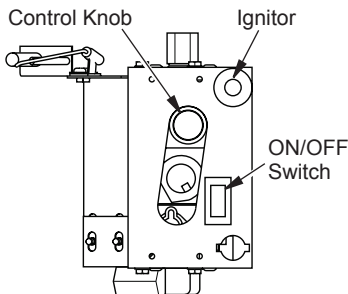

Figure 11 - Control Knob and Ignitor Button
4. Press in and turn control knob clockwise  to the OFF position (see Figure 11, page 11).
5. Wait five (5) minutes to clear out any gas. Then smell for gas, including near the floor. If you smell gas, STOP! Follow "B" in the safety information, page 10. If you don't smell gas, go to the next step.
6. Press in and turn control knob counterclockwise  to the PILOT position. Press in control knob for five (5) seconds (see Figure 11).